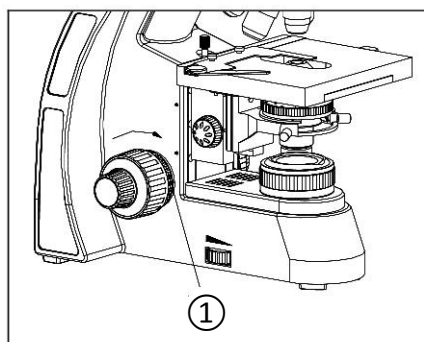

Fig. 9
If the handle is very heavy when focusing or the specimen leaves the focus plane after focusing or the stage lowers by itself, please adjust the tension adjustment ring ①. Located on the left side of the stand between the coarse adjustment knob and the vertical arm is an adjustable tension control dial that is preset at our facility. This allows the user to adjust the coarse control tension to their individual preference. (Fig. 9).